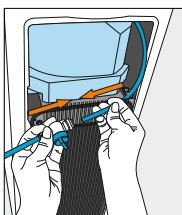

Figure 2
2. Installation should only be executed by properly trained personnel. The connection must be to the potable mains water supply and should be via a shut off valve. An anti-flood device should be fitted as close as possible to the mains connection point. In line with local regulations, a check or non-return valve must also be fitted prior to the equipment (Figure 2).